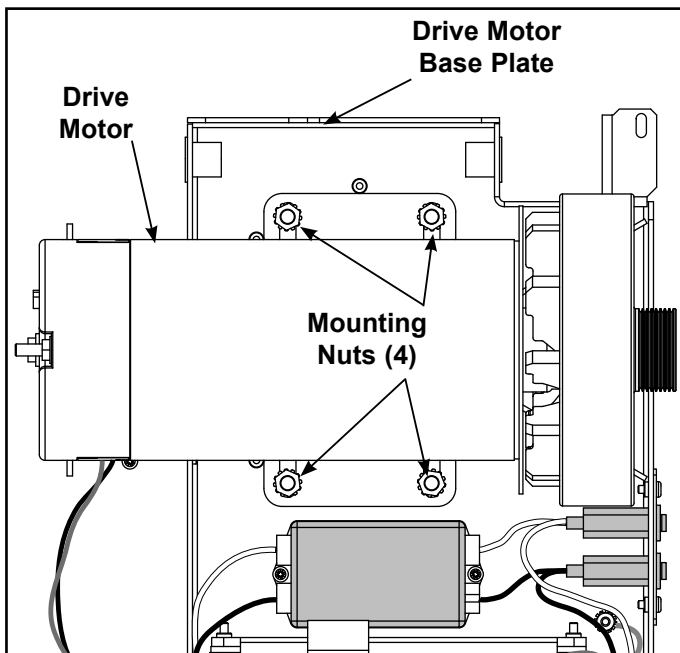
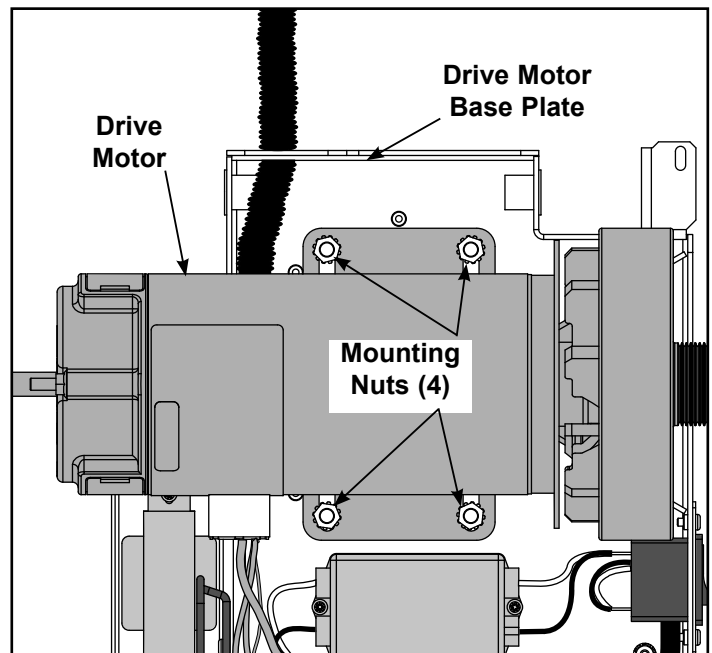

Figure 19a (425T)
Figure 19b (445T)
- A. Using a 1/2" socket with a 6" extension, remove the four mounting nuts securing the drive motor to the motor base plate. See Figure 19a for 425T and Figure 19b for 445T .